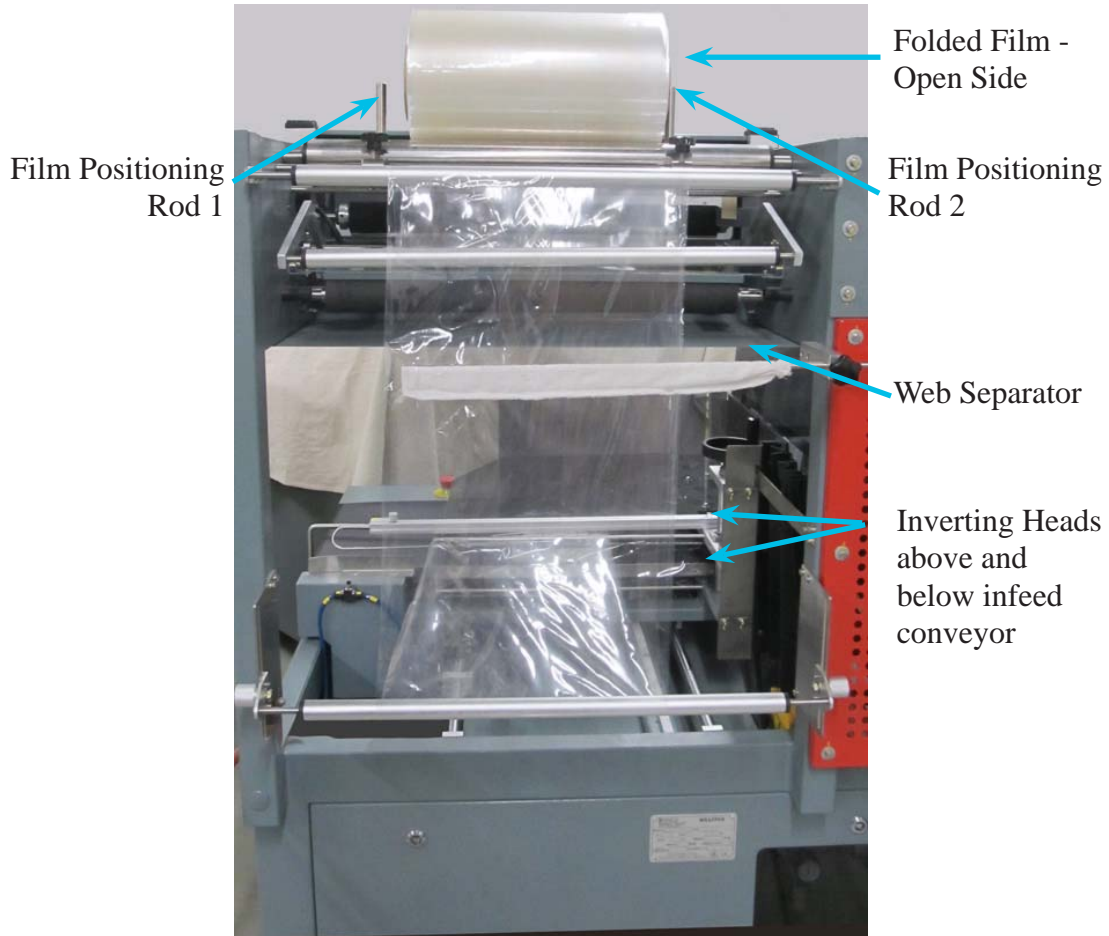

Figure 3-5 Film Unwind Assembly
6. Put the shrink film onto the Film Unwind rollers (see Figure 3-5).
- a. Loosen the locking nut of the left side film positioning rod (1) and adjust the film location. Tighten the locking nut after adjustment
- b. Loosen the locking nut of the right side film positioning rod (2) and adjust the rod to width of the shrink film + 5 mm. Tighten the locking nut after adjustment.
- c. The open side of the shrink film must face to the film positioning rod (2).